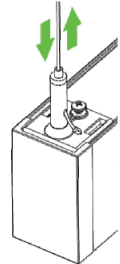

Fig. 10
4. Adjust the aircraft cable to achieve desired mounting height. Cut excessive cable if necessary. (Fig. 10)
6. Adjust the aircraft cable to achieve desired mounting height. Cut excessive cable if necessary. (Fig. 10)